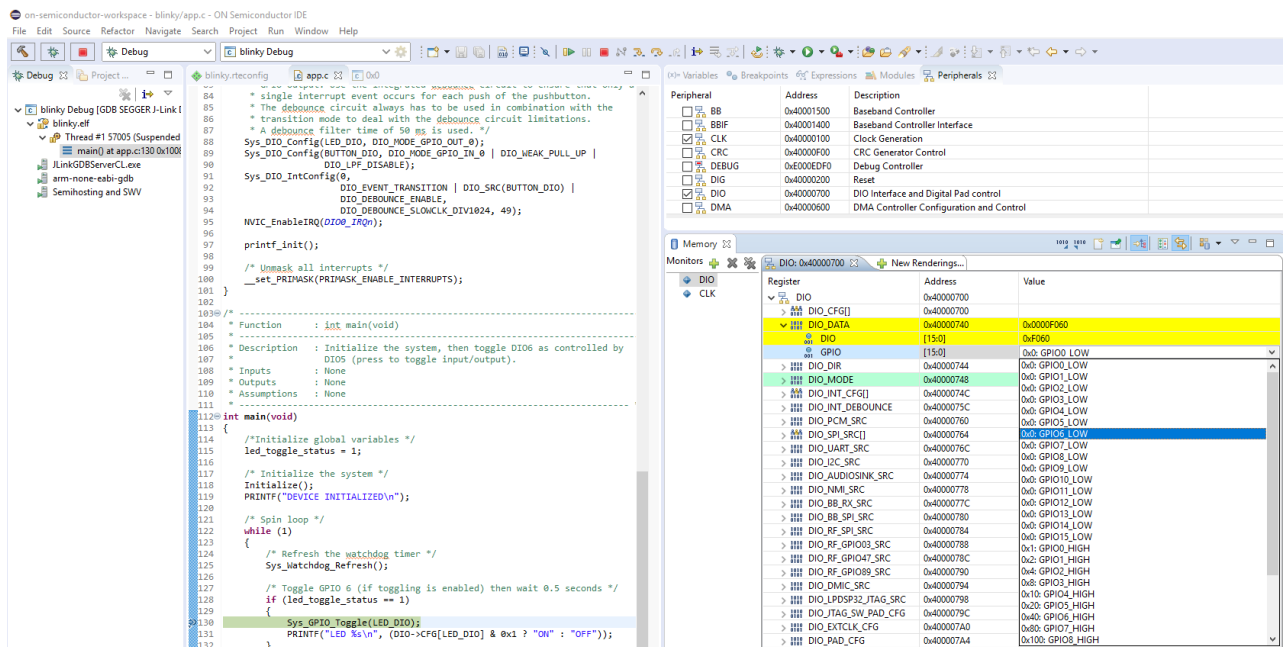
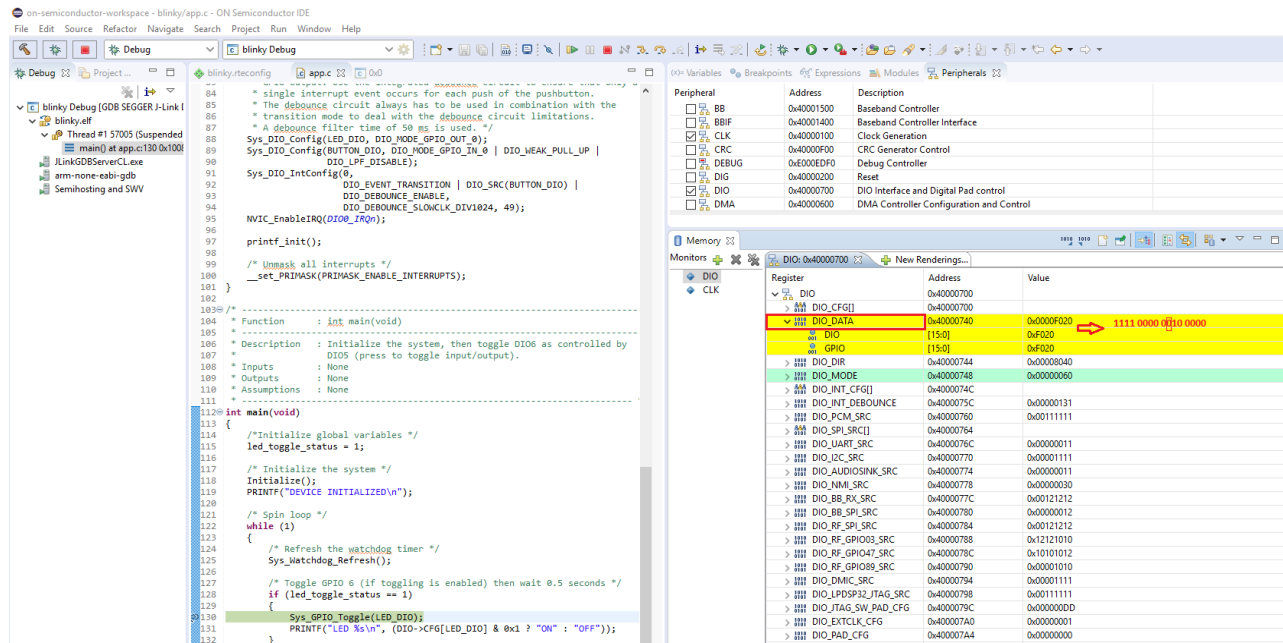

Figure 14. Toggling RSL10 DIO Using the Peripheral Registers View: Before
Figure 15. Toggling RSL10 DIO Using the Peripheral Registers View: After
- To manually change the register value, click on the **Value** field of the GPIO register to change the (HIGH/LOW) state of GPIO6. The figure "Toggling RSL10 DIO Using the Peripheral Registers View: Before" (Figure 14) shows the view before making the change, and the figure "Toggling RSL10 DIO Using the Peripheral Registers View: After" (Figure 15) illustrates the view after making the change. You can observe that the LED (DIO6) on your board changes state.